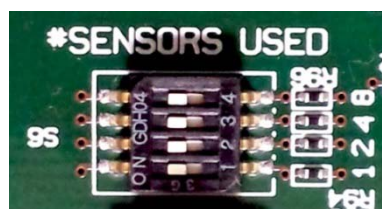

Figure 9 – S6 Dip Switches set to indicate a 15 sensor array
- Verify that the dip switches are set to match the number of sensors used (see Figure 9 – S6 Dip Switches set to indicate a 15 sensor array). The dip switches are typically pre-set at the factory.